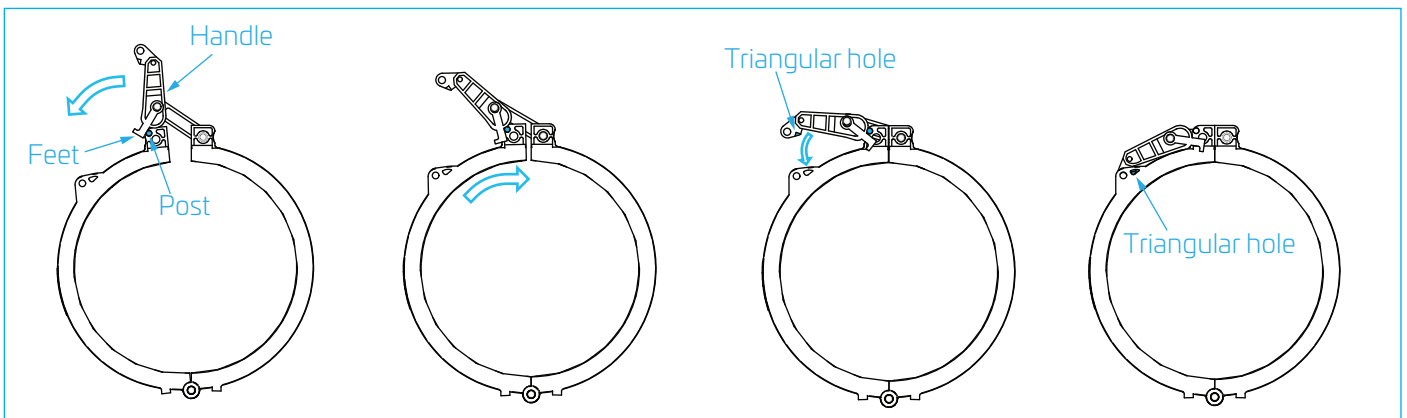

Figure 40.
11.1.4 Position feet of handle in front of the two posts and push down on the handle to pull the two halves of the clamp together. See Figure 40, Steps 1-3.
11.1.5 Continue to push handle down until the small pin on the handle snaps into the triangular hole in the clamp. See Figure 40, Step 4.